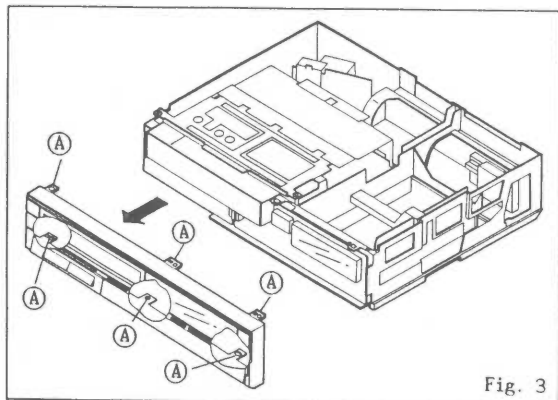

Fig. 3
3. REMOVAL OF FRONT CABINET (See Fig. 3)
- A) Unlock 6 PCB supports (A), then remove the front cabinet in the direction shown by the arrow.